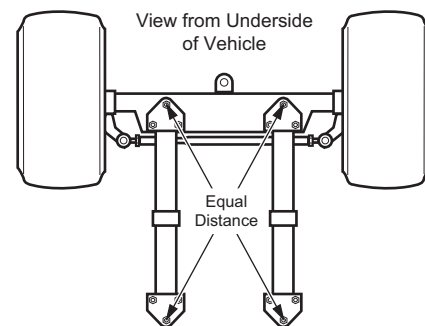

Figure 1 Front Axle Alignment
1. Remove the nut (4) from the bottom of the shock absorber (1) at the front axle (2) (Ref Fig. 1).
3. Loosen the nut (4) securing the top of the shock absorber to the vehicle frame and then rotate the shock absorber while holding the nut in place with a wrench.
5. The installation of the shock absorber is the reverse of disassembly, except that the mounting nuts should be tightened until the rubber bushings (5) expand to the diameter of the shock absorber washers (6).
2. Remove the front wheels. Remove the bottom shock absorber mounting hardware (Ref Fig. 1).
3. Loosen the nut (9) until the threaded end of king pin (8) is protected. Tap the nut with a plastic faced hammer to loosen the king pin.
4. Remove the nut (9) and washer (23) from the king pin. Remove the king pin (8), washer (21), thrust washer (10) and spindle sleeve (22) from the spindle and swing it to the side.
5. Remove the hardware (12) that secures the front of the leaf spring to the front axle.
- Remove the hardware (12) securing the front of the damaged leaf spring to the axle (2) (Ref Fig. 1).